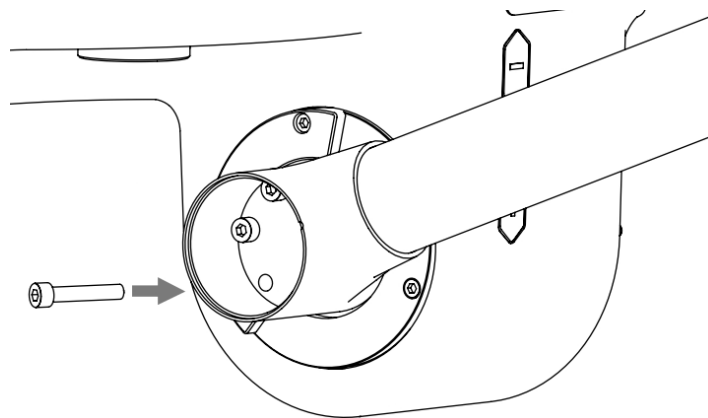

Figure 3-10 Installs the active arm to the reducer
Step 5 Lock the active arm screw. As shown in Figure 3-10, the locking torque is about 20 N·m, and the screw should be coated with Letai 243 medium strength thread glue, then cover the tube plug and lock the M4 set screw (the locking torque is about 0.8N·m).